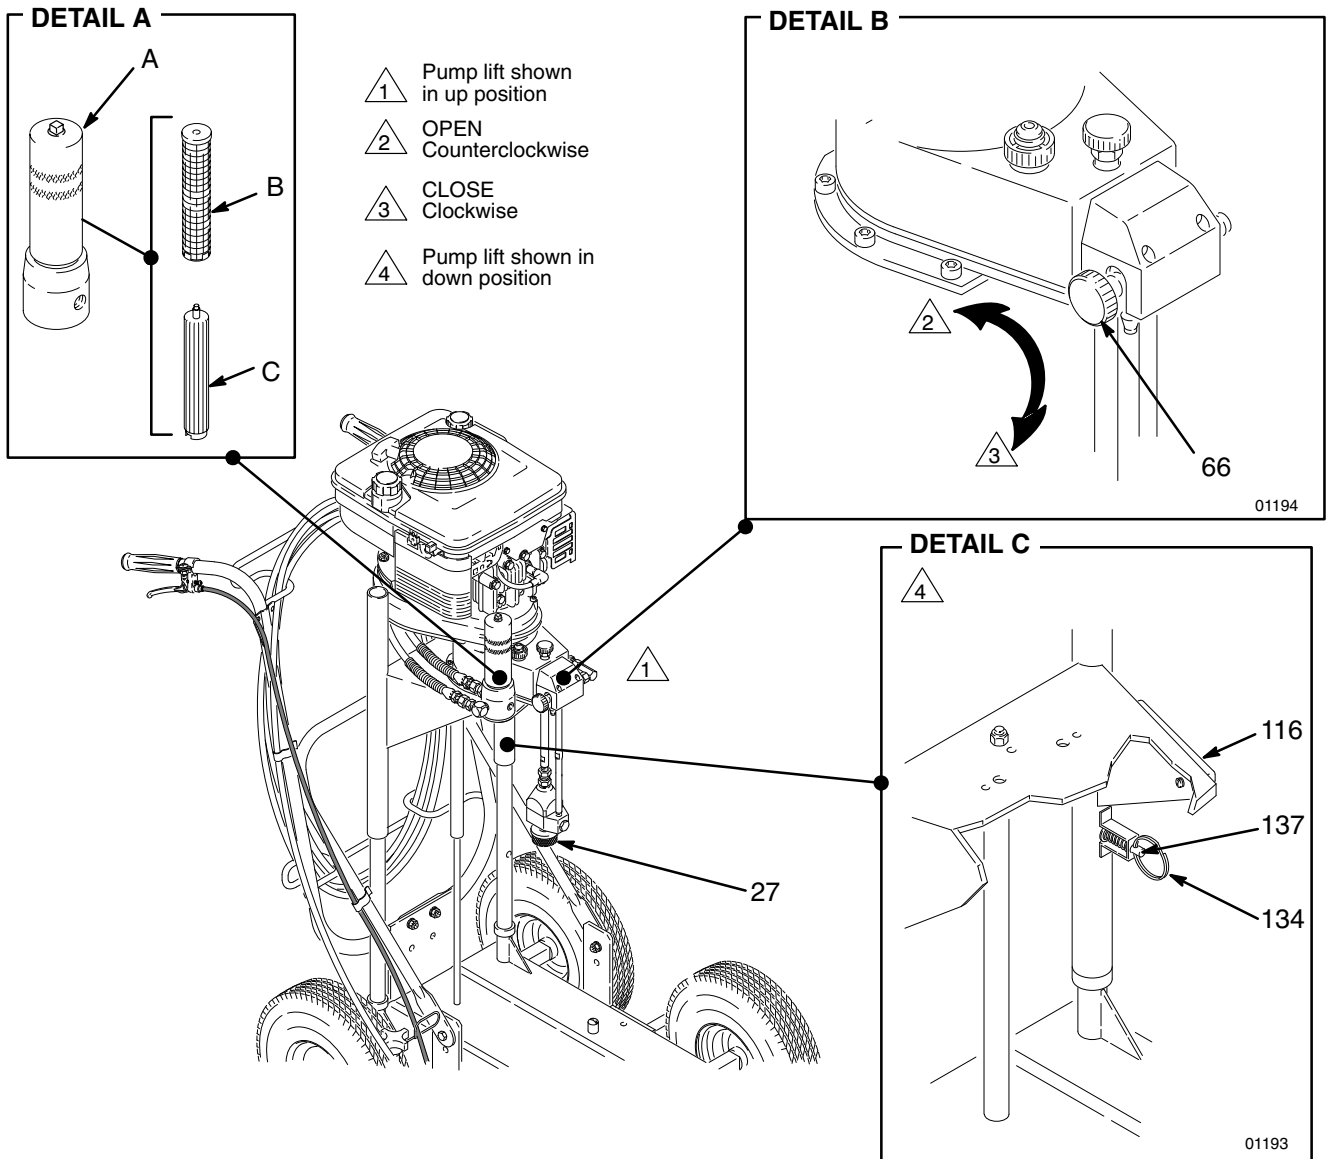
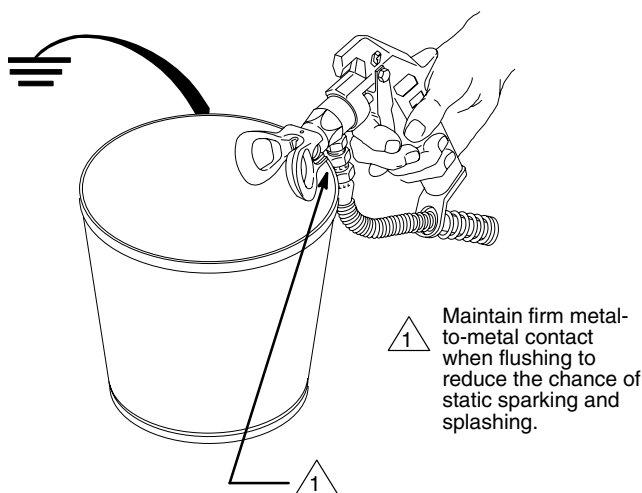

Fig. 9
Fig. 10
How to operate the pump lift. See Fig. 9.
Flush the sprayer. See Fig. 9.
- (1) Position a metal pail of mineral spirits on the cart and lower the paint pump into it.
- (2) Start the sprayer and circulate the solvent through the bypass valve (66) for two to three minutes. Close the bypass valve. See DETAIL B, Fig. 9.
- (1) Raise the paint pump above the paint level. Start the sprayer and allow the paint to drain into the pail. Shut off the engine.
- (2) Position a metal pail of water or compatible solvent, such as mineral spirits, on the cart and lower the paint pump into it.
- (3) Start the sprayer. As soon as it starts, close the bypass valve (66). Trigger the gun into the paint pail. Watch the gun for solvent to appear, and then quickly release the gun trigger.
h. Hold a metal part of the gun firmly to the side of the metal flushing pail. See Fig. 10. Using the lowest possible pressure, trigger the gun and allow the water or solvent to circulate through the pump and gun for two or three minutes. Release the trigger and engage the trigger safety latch.
i. Open the bypass valve (66) **ONE turn counterclockwise**.
m. Install the clean filter support (C) and screen (B). Install the filter bowl (A) and hand tighten. See DETAIL A, Fig. 9.
- (1) Follow the **Pressure Relief Procedure** on page 5.
- (2) Remove the paint strainer (27) and clean it thoroughly. See Fig. 9.
- (3) Lubricate the inlet valve. See page 24.
- (4) See Storage or Changing Colors, page 24.